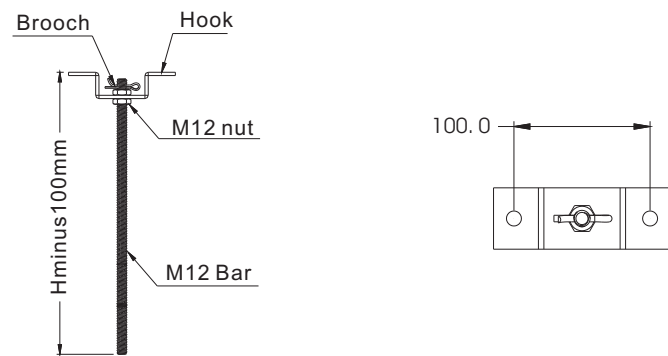

Figure 3
2.This screen equips bracket, and build up the hanging bracket using the hook, M12 nut and M12 bar. Cut the length of M12 bar to H minus 100mm(H is the distance between concrete roof and ceiling surface) (Note: H is 500mm, the length of hanging bracket is 400m which is 500mm minus 100mm) (figure 3).